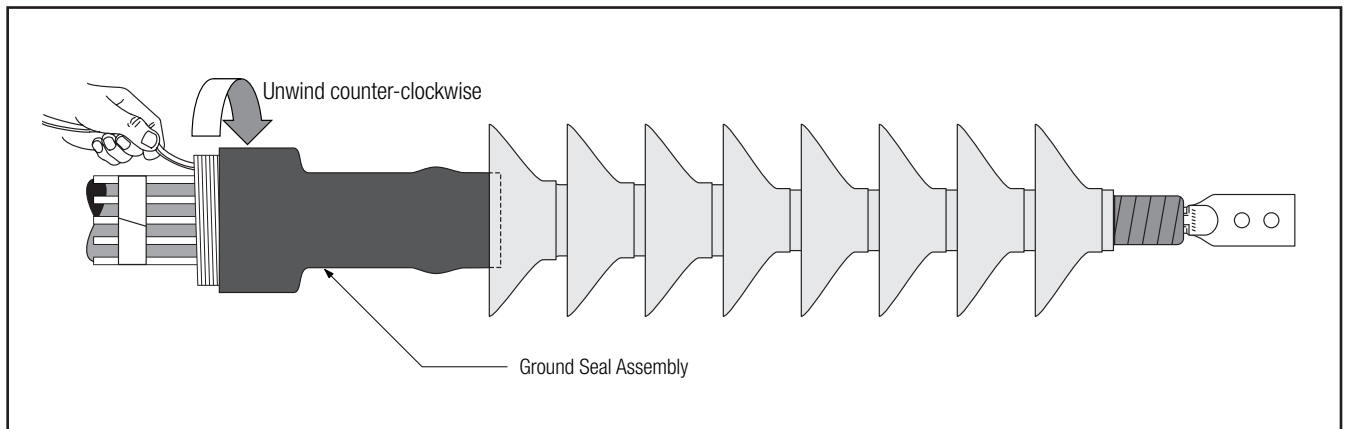

Figure 12
- 4.1 Slide the parked ground seal assembly onto the termination. Start to shrink underneath the first skirt. Remove the core by pulling the loose end while unwinding counter-clockwise. (*Figure 12*)